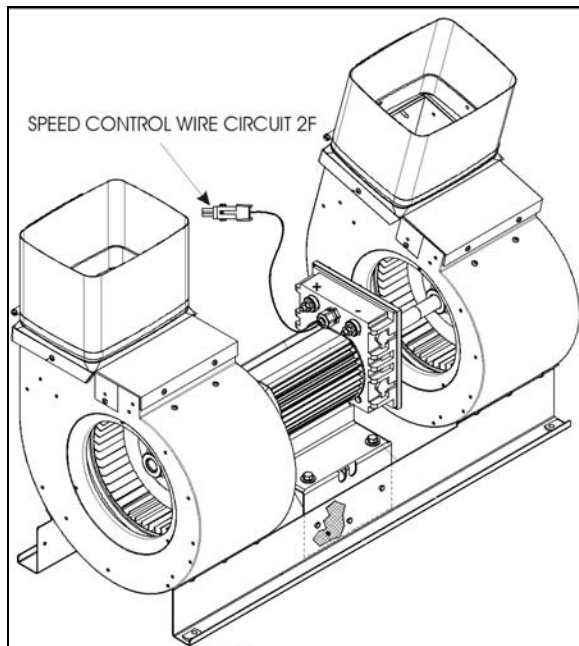

FIGURE 28: EVAPORATOR MOTOR ASSEMBLY
6. From under the vehicle, remove the eight bolts fixing the double blower fan unit base. Remove the complete unit from the evaporator compartment (figure 28).